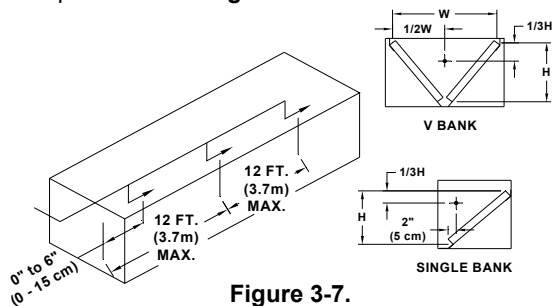

Figure 3-7.
Placement: See **Figure 3-7**.
Aim point: See **Figure 3-7**.
The **Model N-1HP** nozzle is a one (1) flow point nozzle that can protect a plenum (either single bank or V-bank) of 12 feet (3.7 m) in length and 4 feet (1.2 m) in width per nozzle. Larger plenums must be divided into 12-foot (3.7 m) sections, with each section protected with a separate nozzle. See **Figure 3-7**.
The nozzle must be located at the center of the V-bank width and down 1/3 of the vertical height, within 6 inches (15 cm) of the end of the plenum or plenum module and aimed down the length of the plenum. See **Figure 3-7**.
The nozzle must be located at a point that is 2" (5.1 cm) from the back edge of the **filter** and 1/3 of the vertical height of the **filter**, within 6 inches (15 cm) off the end of the plenum or plenum module and aimed down the length of the plenum. See **Figure 3-7**.